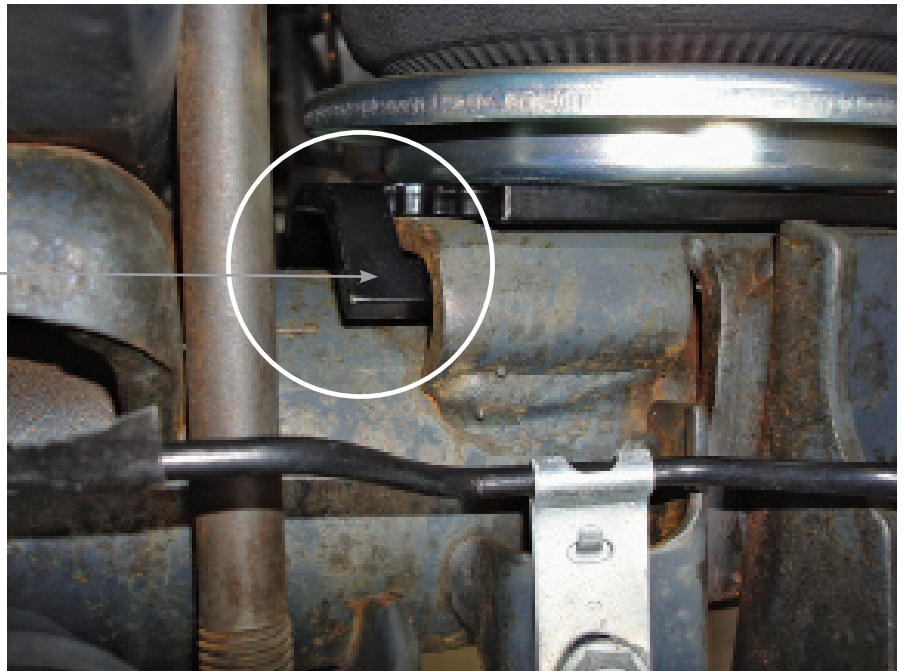

fig. 5
2. Set the driver side assembly in place over the axle. The “tabs” that are on the outside of the lower bracket will index under the jounce bumper strike plate (fig. 5).